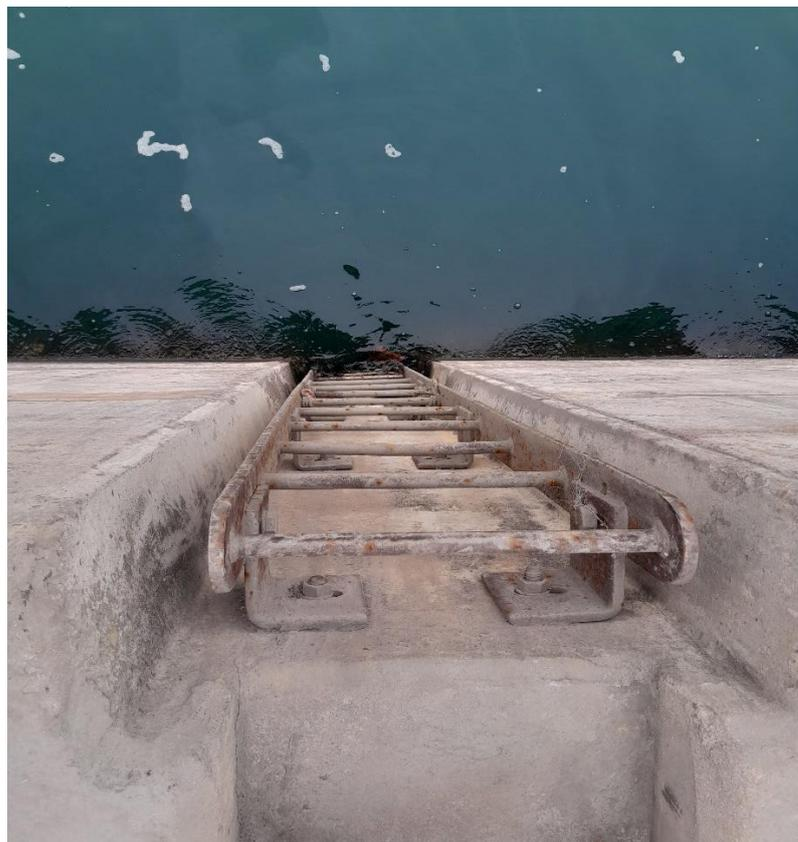

Figure 1
- v) **Figure 1** below indicates one of the corroded access quay ladders in the Port, other corroded Access quay ladders are generally of the similar quality.